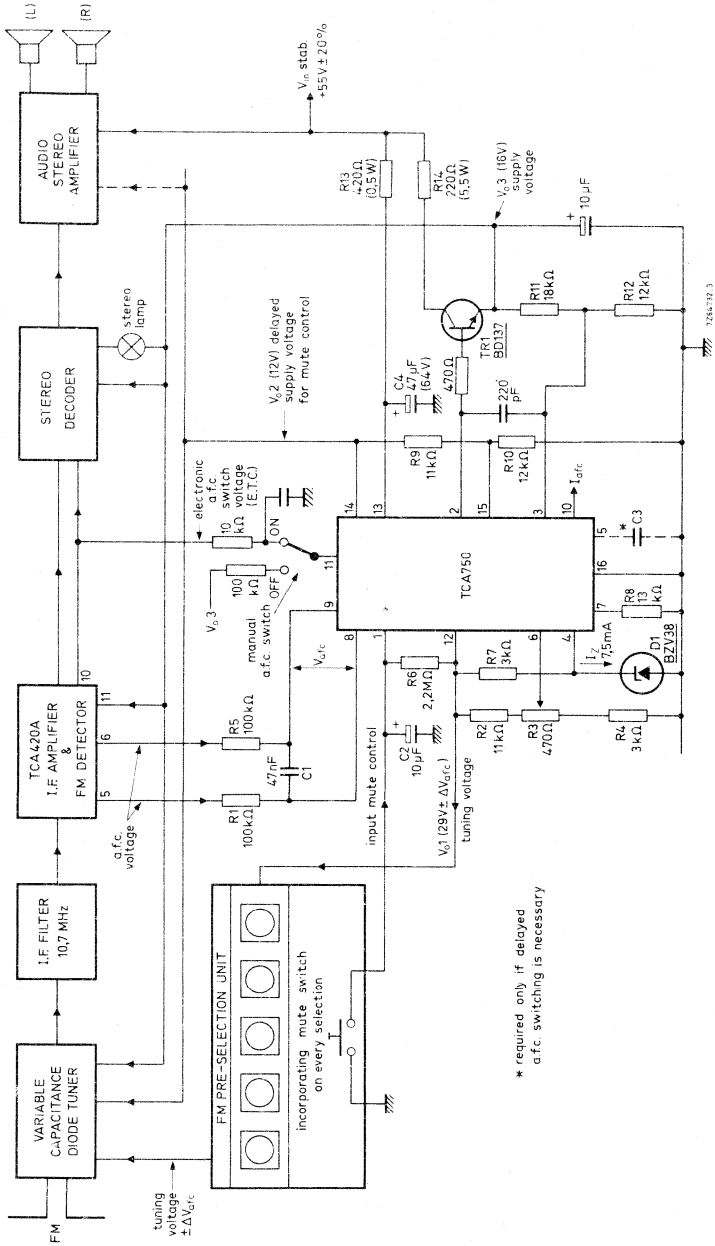

Fig. 5. Hi-fi radio receiver with electronic tuning using TCA750.
4. If a higher level is required from the output of stabilizer 1, the reference diode supply may be obtained from the emitter of a power transistor connected to the output from stabilizer 3 (see Fig. 5). In this case, the current available from stabilizer 1 is increased to 12,5 mA (bleeder current $I_{RA1} = 2$ mA).